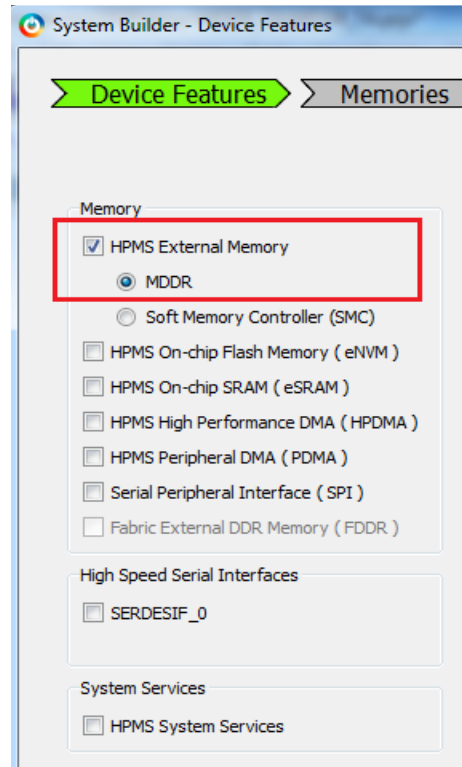

Figure 8 • System Builder - Device Features Tab
1. Go to the **System Builder - Device Features** tab and select the **HPMS External Memory (MDDR)** check box and leave the rest of the check boxes unchecked. Figure 8 shows the **System Builder - Device Features** tab.